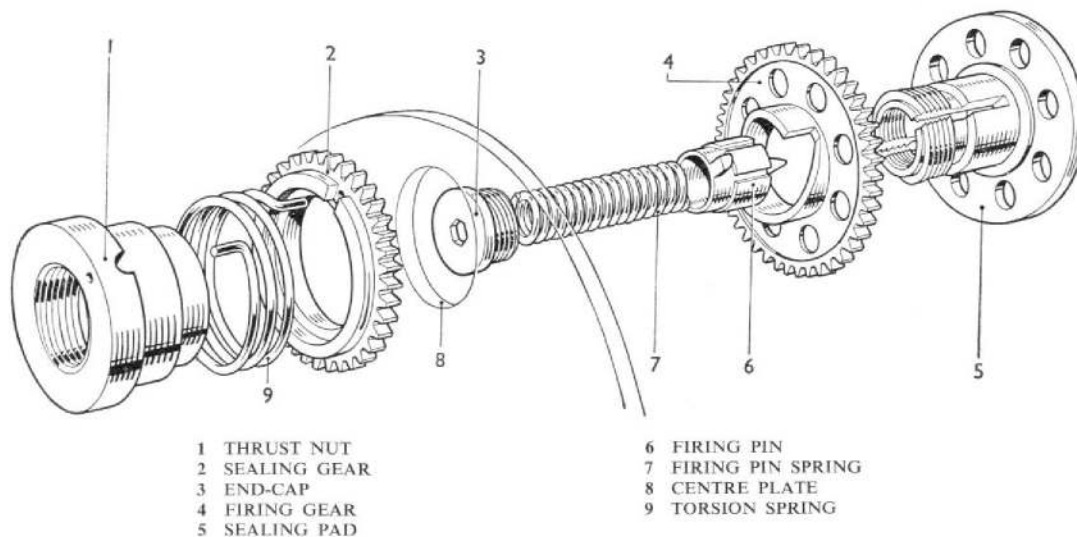

Fig. 26. Exploded view of sealing and firing mechanism
- (1) Locate the firing gear (fig. 26) on the sealing pad.
- (2) Slide the firing pin—pin first—into the sealing gear and position the firing pin lugs on the lowest point of the cam.
- (1) Locate the spring (fig. 26) over the thrust nut so that the longer of the two legs enters the drilling in the thrust nut collar.
- (2) Position the sealing gear on the thrust nut so that the short leg enters the drilling in the flange of the sealing gear.
- (3) Repeat this procedure for the five remaining assemblies.
- (1) Locate the spacer in the thrust nut of No. 6 sealing gear assembly.
- (2) Remove the end-cap, firing pin and firing gear (fig. 26) from No. 6 sealing pad and screw the pad finger-tight into the thrust nut.